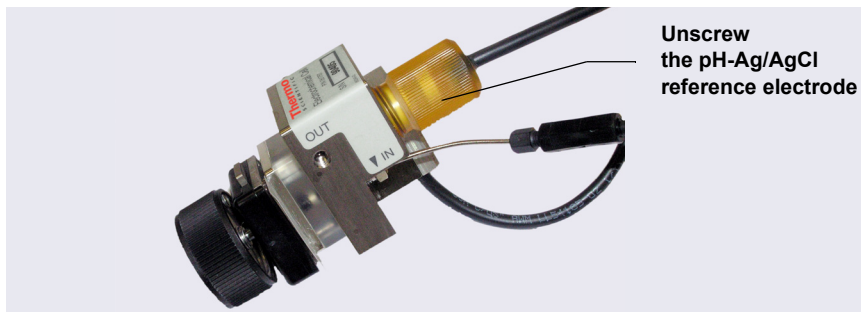

Figure 10-63. Removing the pH-Ag/AgCl Reference Electrode (Cell Configured for Analytical IC Shown)
2. Unscrew the pH-Ag/AgCl reference electrode and remove it from the cell body (see Figure 10-63).
- b. Unscrew the pH-Ag/AgCl reference electrode and remove it from the cell body (see Figure 10-63).